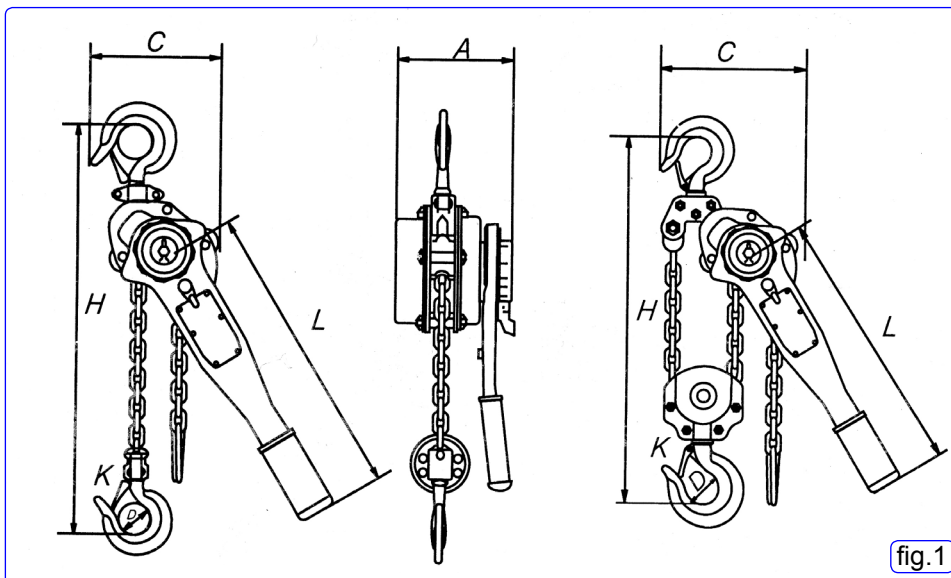

fig.1
**2.2. Technical Data (A, C, D, K and L refer to fig.1)**